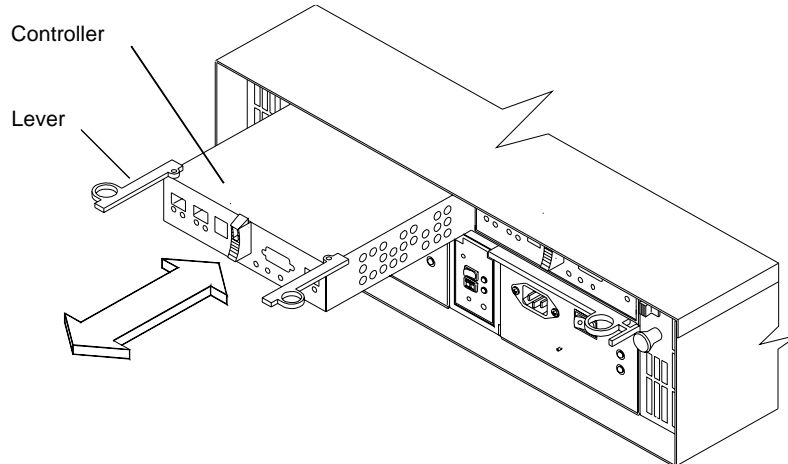

Figure 4-6 Removing and Installing a RAID Controller Module
6. Wearing antistatic protection, push down on the latch centered above the RAID controller module. The levers will pop out of the locked position (see Figure 4-6).